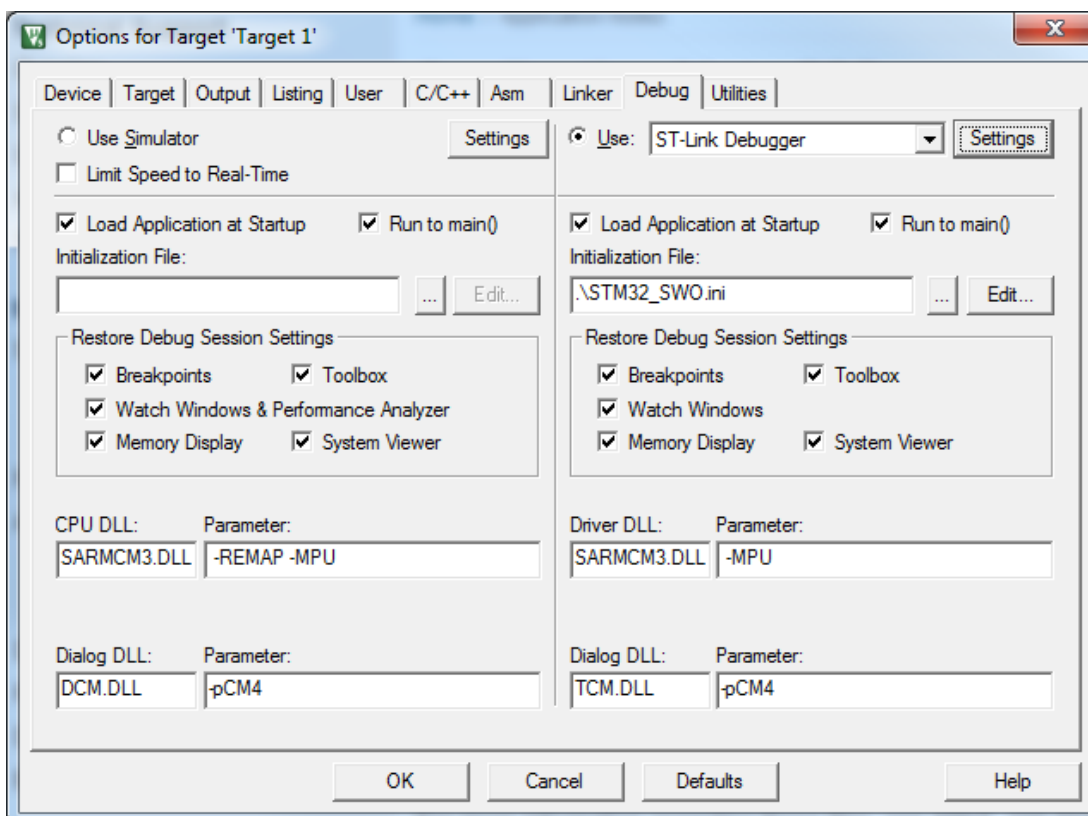

Figure 2. Select Initialization File: STM32\_SWO.ini
2. Copy the information on page 3 of this assignment into a plain text file STM32\_SWO.ini, put that in your project directory, and then on the Debug tab (see Figure 2 on the next page) select this as the debugger Initialization File. (Or, you can add this text to your own debugger initialization file.)